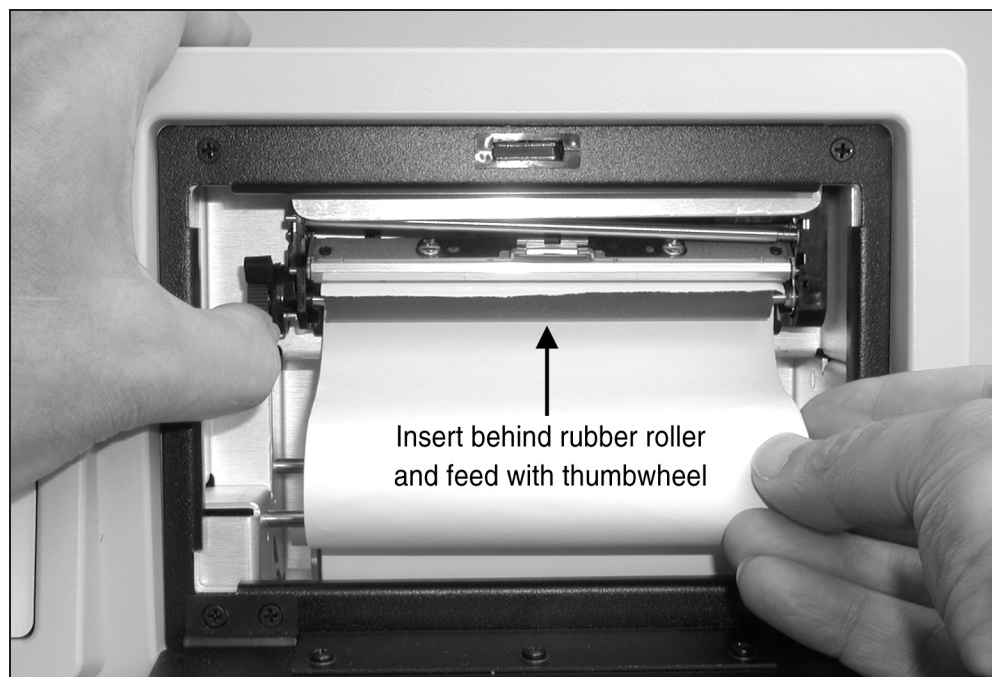

Figure 2.4.2C—Loading paper into the printer
4. Install the plastic roller and paper roll into the printer mechanism, with paper facing out and feeding from the top of the roll. (See Fig. 2.4.2C) The paper roller will fit into the slots on the left and right side of the printer mechanism. The paper roller should drop into position without additional adjustment.
3. Unroll approximately six inches of paper from the roll, and insert the paper's leading edge into the bottom of the printer mechanism, directly beneath the rubber roller so the paper moves up behind the roller. See Fig. 2.4.2C.